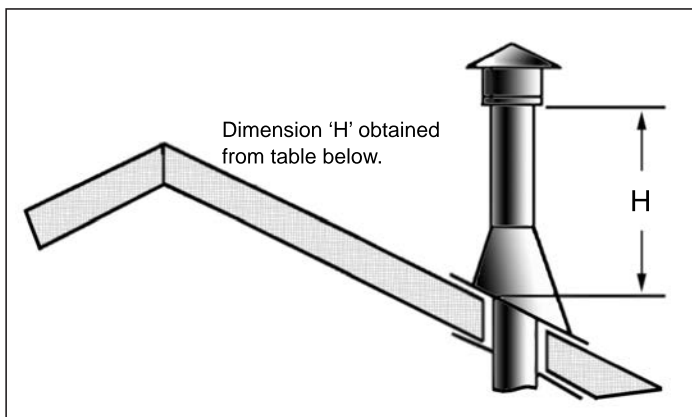

Figure 30: Height of Vertical Termination; Reference Table 5.
8. Continue to add pipe sections until the height of the vent cap meets the minimum code requirements. Refer to Figure 30 and Table 5. Note that for steep roof pitches, the vent height must be increased. In high wind conditions, nearby trees, adjoining roof lines, steep pitched roofs, and other similar factors can result in poor draft, or down drafting. In these cases, increasing the vent height may solve the problem.
Table 5: Minimum 'H' for Figure 30